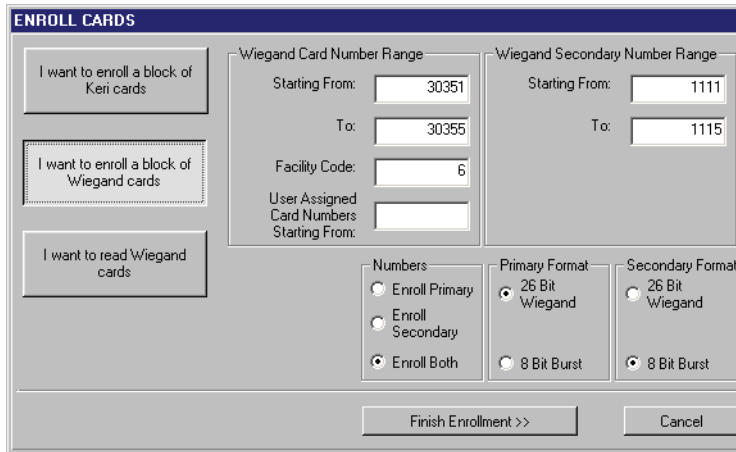

Figure 14-11: Enroll Cards - Ready For Enrollment
13. The resulting Enroll Cards window should look similar to Figure 14-11.